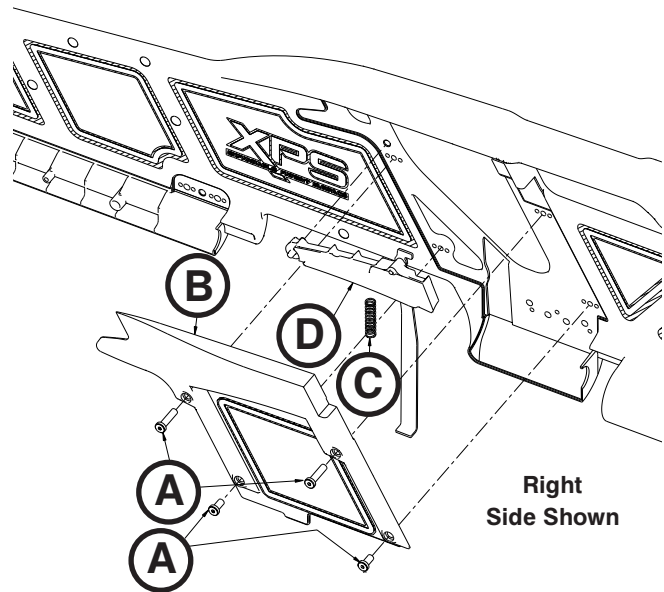

Figure 58
3. Using a 3/32" hex wrench, remove the four screws (A) that secure the release cover (B) to the overmold assembly to remove the release cover (Figure 58).
4. Using a small slotted screwdriver, pry the release handle return spring (C) up to remove the spring (Figure 58).
5. Grasp the release handle assembly (D), and hinge it upward on the spring side to remove it from the cover (Figure 58).